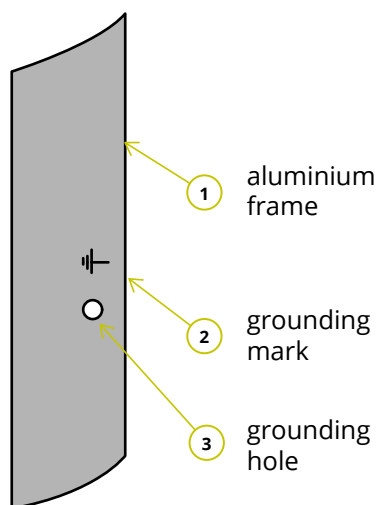
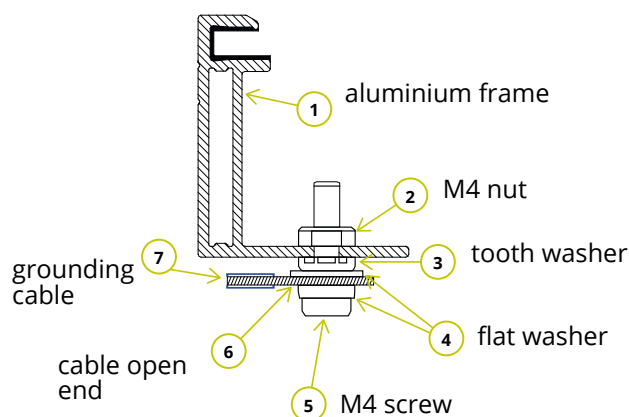

Figure 5 Grounding hole
Figure 6 Photovoltaic module grounding method
7.5.1 Photovoltaic modules use anodized corrosion-resistant aluminum alloy frame as a rigid support. In order to avoid lightning and static damage to the PV modules and to protect personal safety, all PV module frames and mounting brackets must be grounded. If there are no special regulations, please follow the International Electrotechnical Commission standards or other international standards. Connect the grounding cable to the PV module frame using the recommended connection terminals. A 12AWG size copper core wire is recommended for the grounding wire. As shown in Figure 5, the grounding hole on the photovoltaic module and its identification, the photovoltaic module grounding method shown in Figure 6.